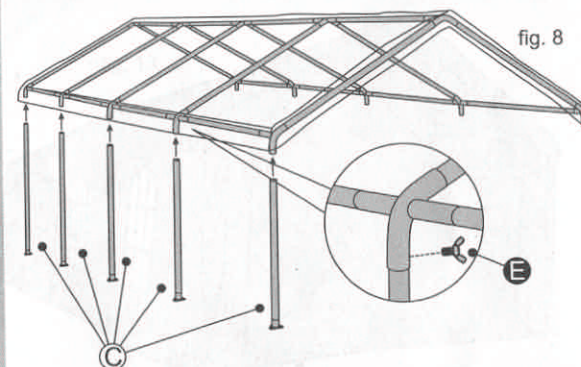

fig. 8
1. Use Wing Screws **E** to fix 5 Leg Poles **C** on one side of the unit. See fig. 8.